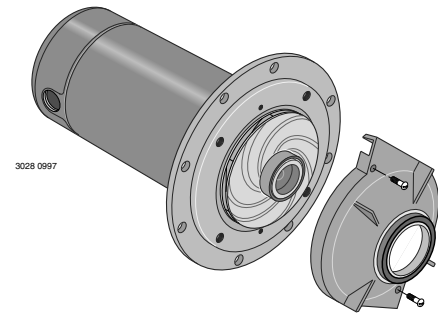

Figure 18 – Remove Diffuser
Step 1. Remove screws fastening diffuser to seal plate; remove diffuser (see Figure 18). Exposed impeller can now be cleaned.